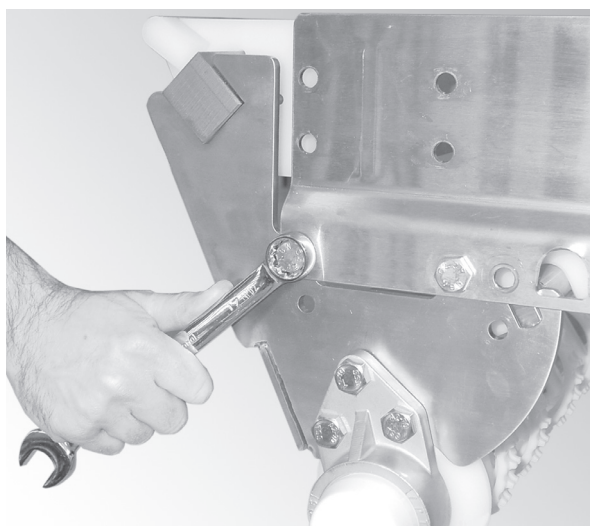

Figure 7
1. Bolt the nose bar drive tail assembly to the conveyor frame (Figure 7).